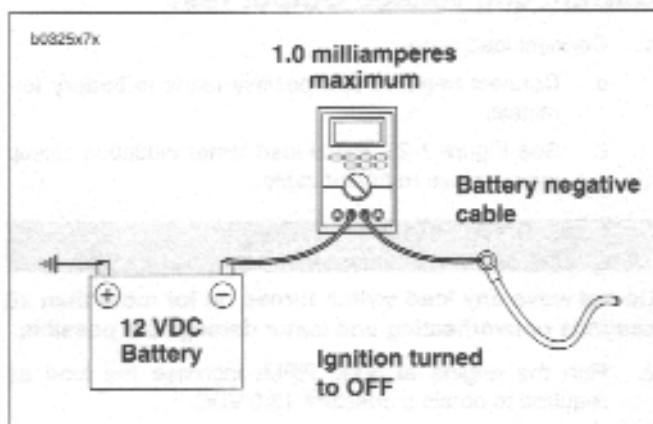

Figure 7-23. Milliampere Draw Test
1. See Figure 7-23. Connect ammeter between negative battery terminal and battery. With this arrangement, you will also pick up any regulator drain.